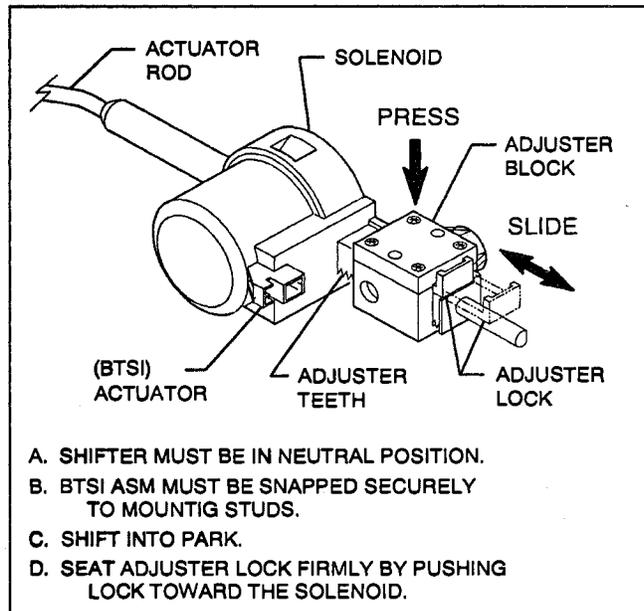

Figure 17 - (BTSI) Adjuster Lock
- Park lock cable assembly (48). (See Figure 17)
18. Remove steering column lock cylinder (17) from lock module assembly (15).
19. Upper shroud (10).
20. Two torx head screws (14) to upper shroud (10).